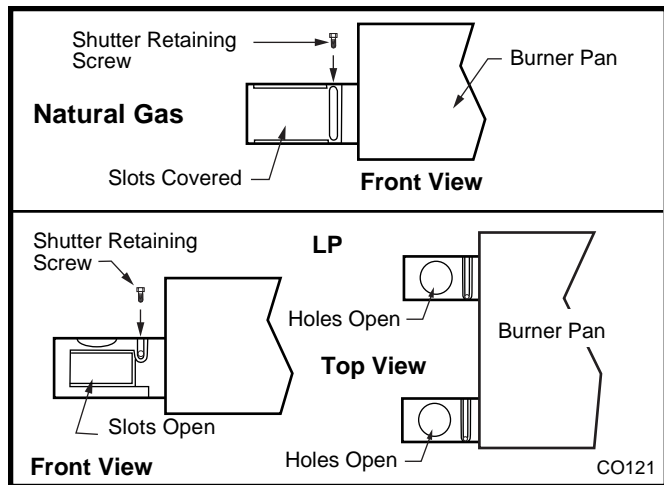

Fig. 68 Install conversion shutter. Adjust holes and slots.
9. Install conversion air shutters on burner pan. Replace air shutter retaining screw. Adjust both air shutters. Refer to Table 3 for proper air shutter adjustment. Secure air shutter retaining screw. (Fig. 68)